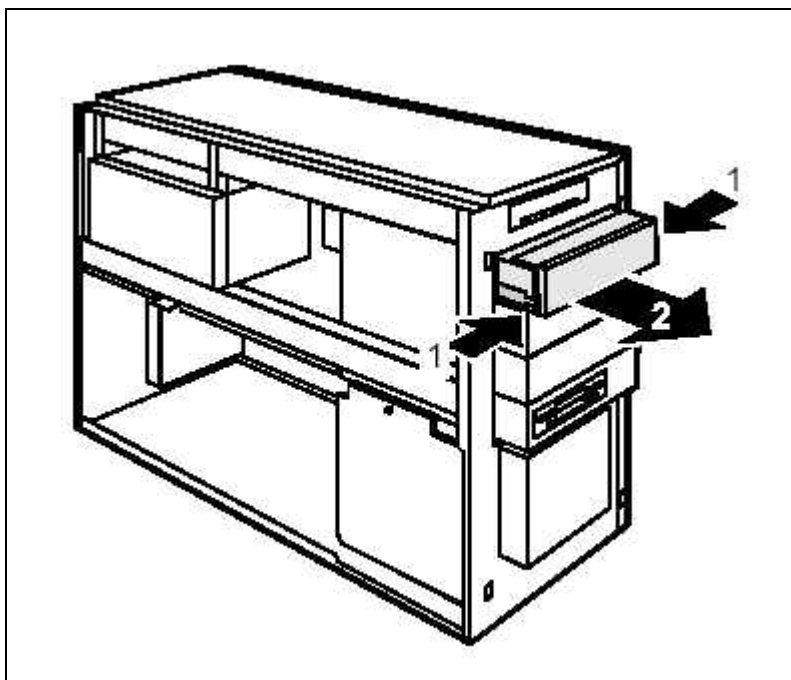

Fig. 42: Replacing the drive
5. Press the rails (1/Fig. 42 / p. 73) together and pull the drive out of the casing (2/Fig. 42 / p. 73).